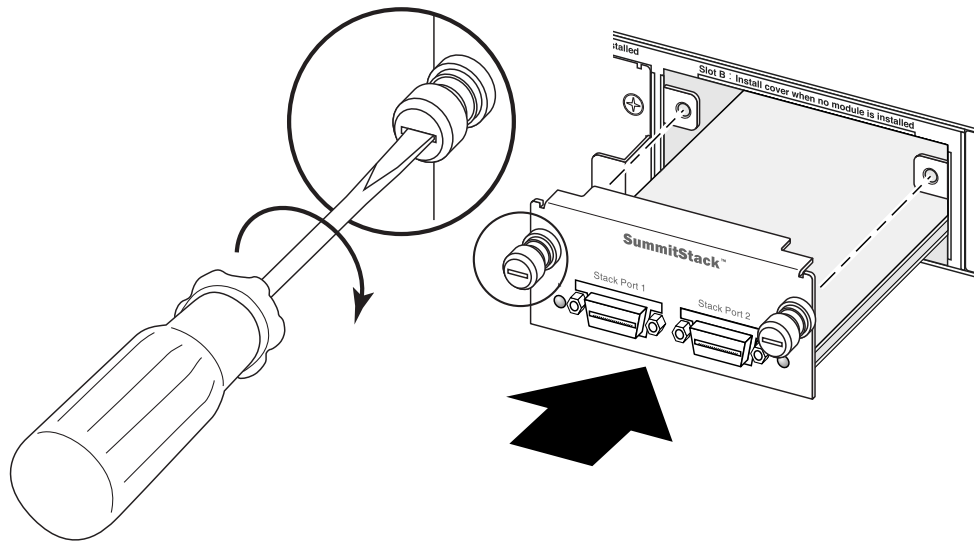

Figure 439: Installing a SummitStack Module
3. Carefully slide the replacement module or card into the switch (see Figure 439).